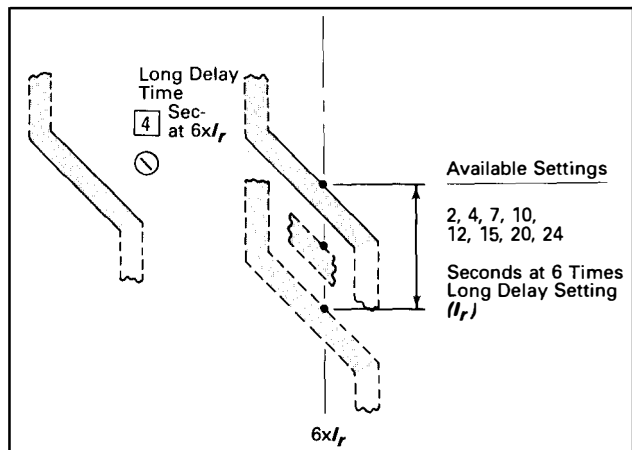

Fig. 4.2 Long Delay Time Settings
There are eight (8) available Long Delay Time Settings, as illustrated in Fig. 4.2, ranging from 2 to 24 seconds. These settings are the total clearing times when the current value equals six ($6 \times I_r$) times I_r .